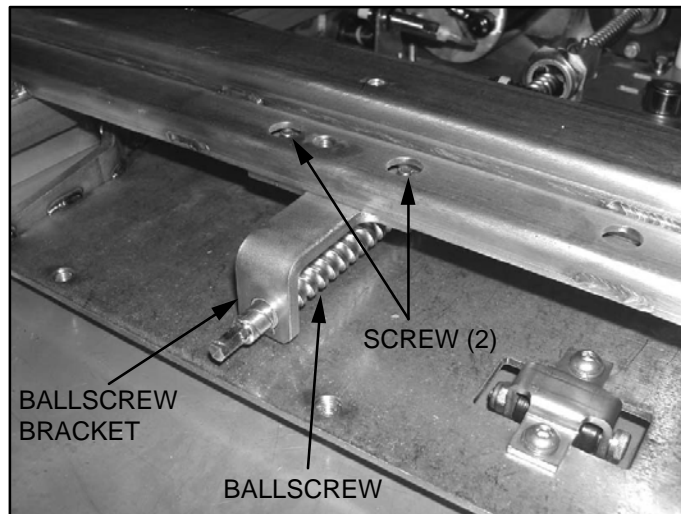

FIGURE 4-15: BALLSCREW BRACKET
- f. Refer to **Figure 4-15**. Remove and retain two screws that attach the ballscrew bracket to the enclosure support beam.
- d. Refer to **Figure 4-15**. Install two screws that attach the ballscrew bracket to the enclosure support beam.
- i. Refer to **Figure 4-15**. Install two screws that attach the ballscrew bracket to the enclosure support beam.
- f. Refer to **Figure 4-15**. Remove and retain two screws that attach the ballscrew bracket to the enclosure support beam. Retain ballscrew bracket.
- e. Refer to **Figure 4-15**. Install two screws that attach the ballscrew bracket to the enclosure support beam.